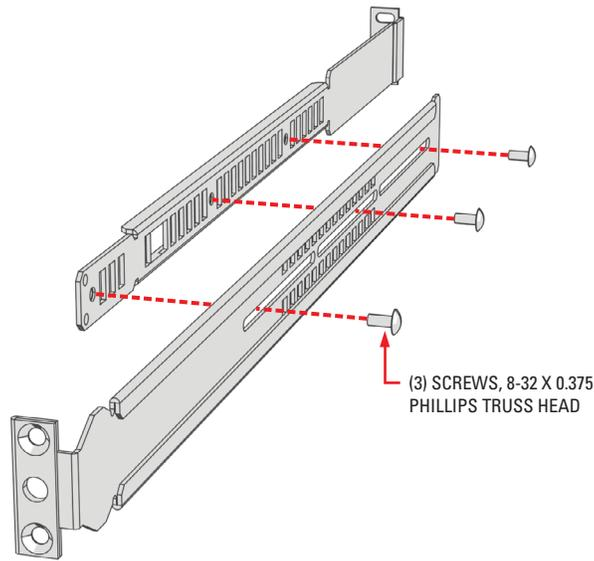

Figure 8. Assembling a Support Rail
3. Attach one front-mount rail to one rear-mount rail. Make sure the rails are mounted back to back, as shown in Figure 8. Use three 8-32 x 0.375-inch Phillips truss head screws for each rail set. Leave the screws loose until step 9.